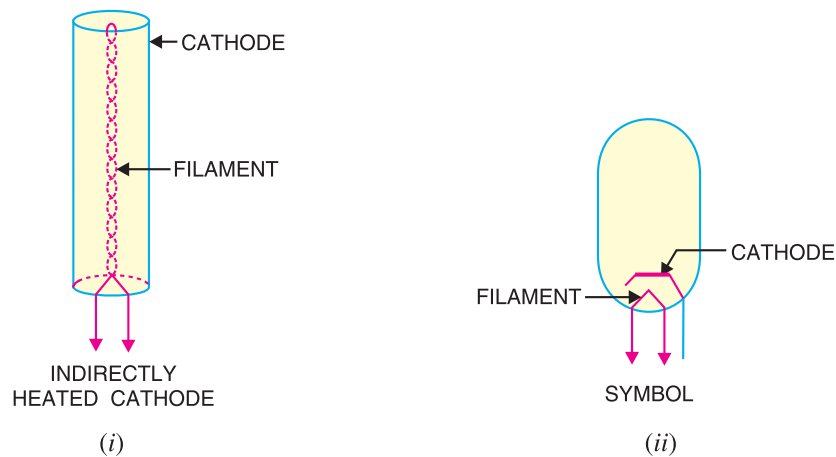

Fig. 2.3
**(ii) Indirectly heated cathode.** In this type, the cathode consists of a thin metal sleeve coated with barium and strontium oxides. A filament or heater is enclosed within the sleeve and insulated from it. There is no electrical connection between the heater and the cathode. The heating current is passed through the heater and the cathode is heated indirectly through heat transfer from the heater element. Fig. 2.3 (i) shows the structure of indirectly heated cathode whereas Fig. 2.3 (ii) shows its symbol.